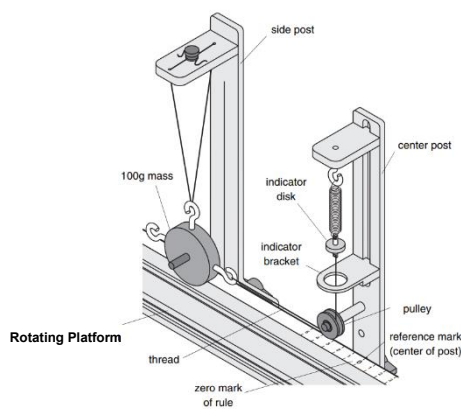

Fig. 4. Threading the Centripetal Force Accessory
- (vi) Thread the Centripetal Force Accessory (See Fig. 4)